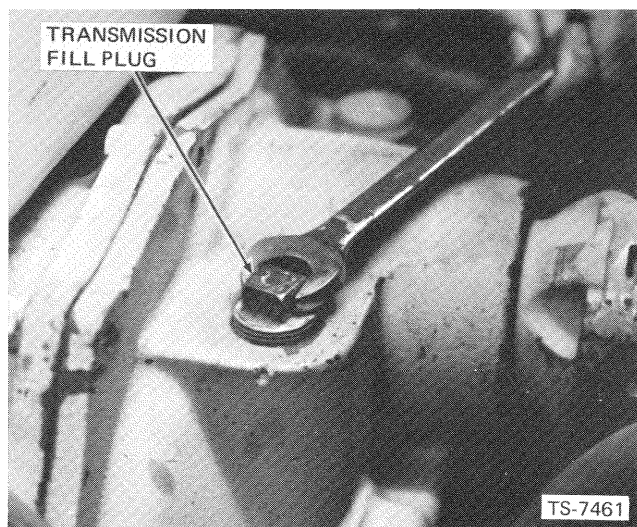

Fig. 10-3 Transmission Fill Plug
6. Refill the transmission, torque converter and winch with the type of fluid specified in this manual through the filler plug located on top of the transmission (Fig. 10-3) until the correct level shows on the dipstick. Approximate capacity — 8 gallons (Imperial measure), 9.6 gallons (U.S. measure).